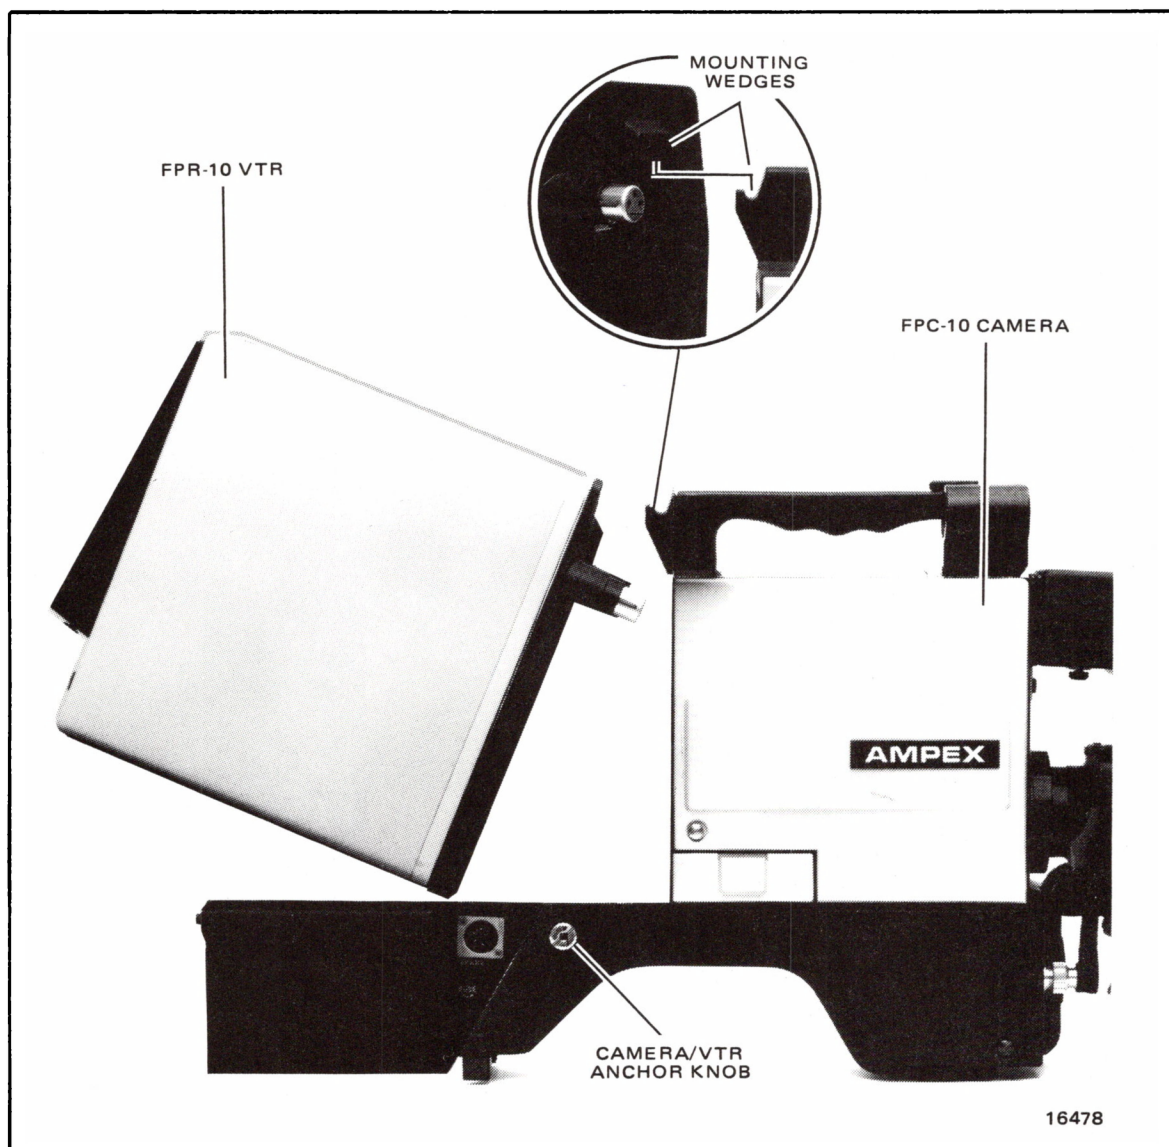

Figure 6-2. Removing FPR-10 Portable VTR from FPC-10 Camera
- STEP 1 If attached, remove FPR-10 portable VTR from FPC-10 camera as follows (see Figure 6-2):